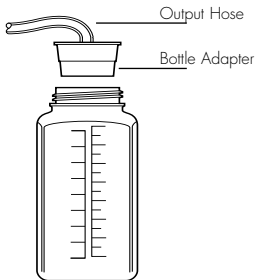

Figure 2-1
The EasyFill Bottle Adaptor (Figure 2-1) conveniently attaches directly to different sized water containers.
2. Insert the EasyFill Bottle Adaptor into a clean water container or connect hydration connector to bladder*. (Figure 2-1, 2-2)